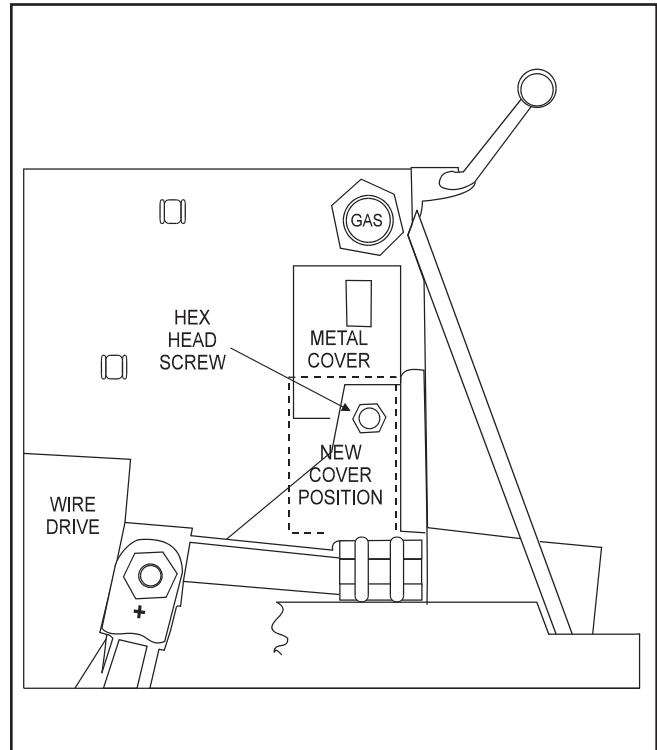

FIGURE C.2 - Spool Gun Installation.
7. Remove the hex-head screw from beneath the gas connector on the wire drive side of the machine to release the small metal cover. See Figure C.2.
9. Turn the cover over so the screw hole is in the top right corner, then reinstall as a spacer plate with the hex-head screw. See Figure C.2.